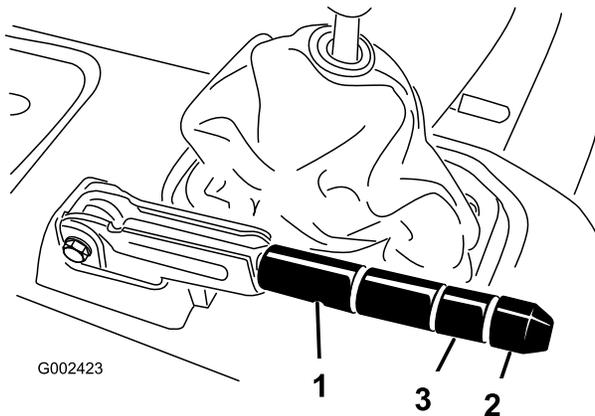

Figure 54
2. Loosen the set screw securing the knob to the parking brake lever (Figure 54).